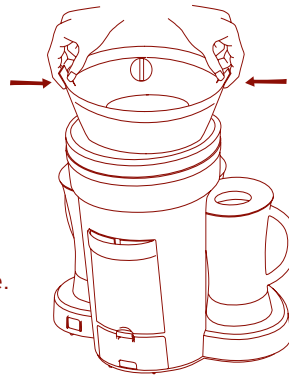

Figure 6
5. Press the two Ice Hopper release catches and lift the Ice Hopper to remove (Figure 6).